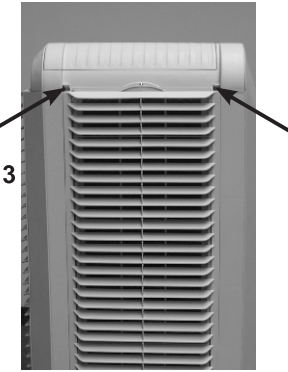

Fig. 3
3. Press the plastic rods on the left and right sides to release the cover, Fig. 3